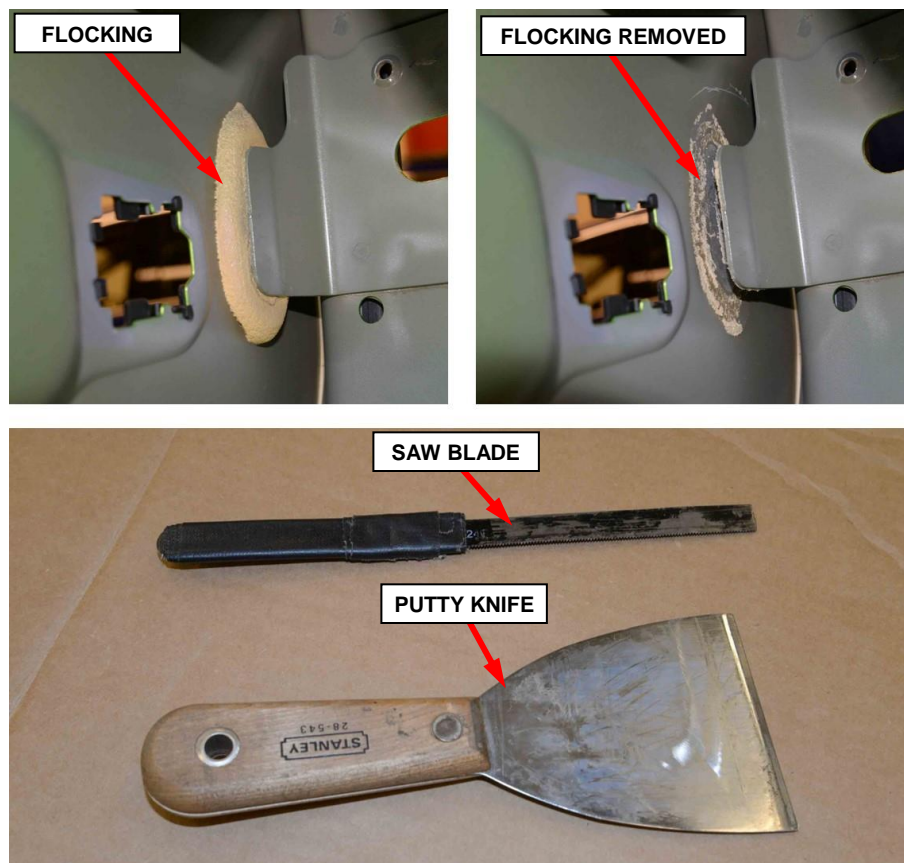

Figure 23 – Remove Flocking Material
39. Using a saw blade or putty knife or other equivalent tool, remove ALL of the flocking material from between the outer door panel skin and latch reinforcement flange, ensuring to not dent the outer door skin (Figure 23). Remove any loose remaining pieces of flocking material from the door cavity.